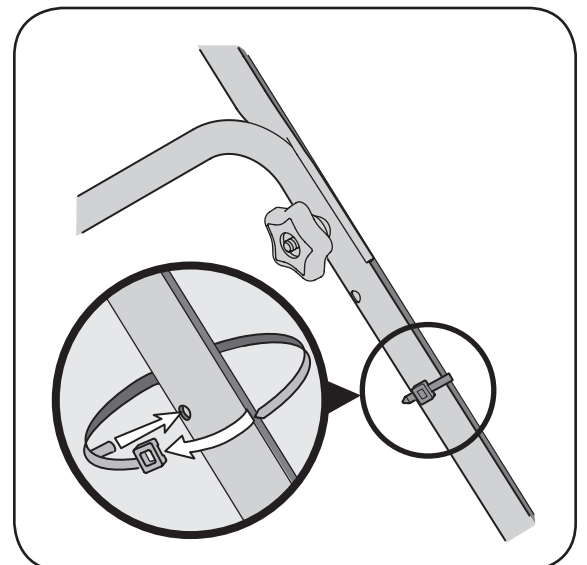

Figure 3-4: Secure cables to handle using cable tie.
4. Insert post on cable tie into hole provided on the lower handle. Pull cable tie tight and trim excess. See Figure 3-4.